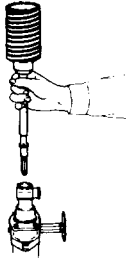

Fig. 13
- (2) Mount the core bit shank on the main body in the same manner as in mounting the drill bit and the bull point. (Fig. 13)
- (3) Insert the center pin into the guide plate until it reaches the extremity.